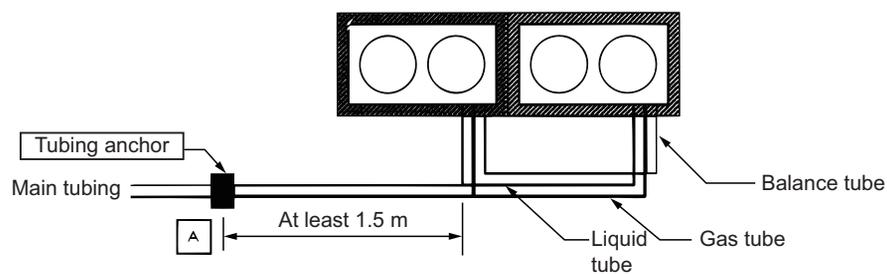

Fig. 23
(2) When Using Interlocking Frames
- Run the balance tube ($\phi 9.52$) along the path of the gas and liquid tubes (as shown in Fig. 23), and bundle it with the other tubes to prevent vibration.
When determining the anchor position, refer to the dimensions for A in Fig. 23.